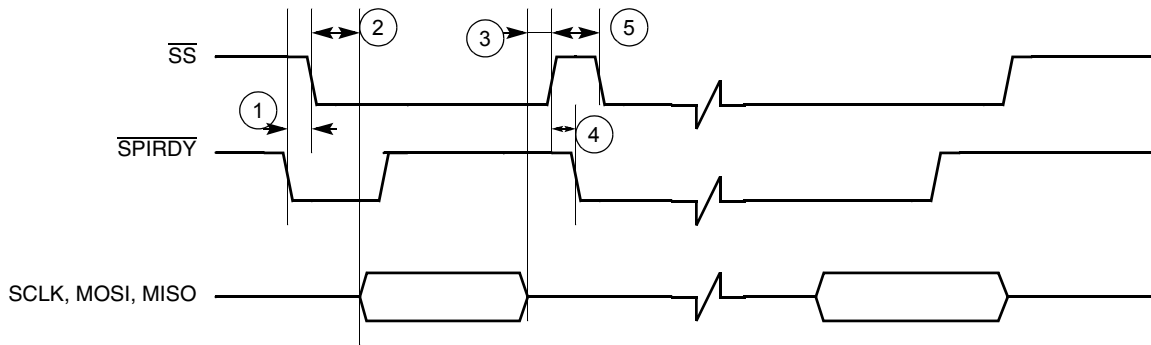
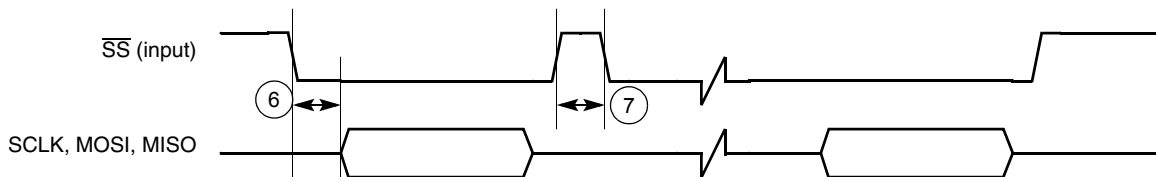

Figure 39. Master SPI Timing Diagram Using $\overline{\text{SPI_RDY}}$ Edge Trigger
Figure 43. Slave SPI Timing Diagram FIFO Advanced by $\overline{\text{SS}}$ Rising Edge
To use the internal transmit (TX) and receive (RX) data FIFOs when the SPI 1 module is configured as a master, two control signals are used for data transfer rate control: the \overline{SS} signal (output) and the $\overline{SPI_RDY}$ signal (input). The SPI1 Sample Period Control Register (PERIODREG1) and the SPI2 Sample Period Control Register (PERIODREG2) can also be programmed to a fixed data transfer rate for either SPI 1 or SPI 2. When the SPI 1 module is configured as a slave, the user can configure the SPI1 Control Register (CONTROLREG1) to match the external SPI master's timing. In this configuration, \overline{SS} becomes an input signal, and is used to latch data into or load data out to the internal data shift registers, as well as to increment the data FIFO. Figure 39 through Figure 43 show the timing relationship of the master SPI using different triggering mechanisms.
Table 24. Timing Parameter Table for Figure 39 through Figure 43